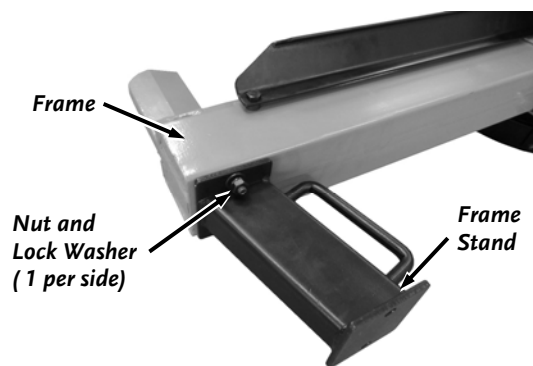

Figure 2
1. Use a 14mm Wrench to remove the two Nuts and Lock Washers that hold the Frame Stand onto the Frame (**Figure 2**).